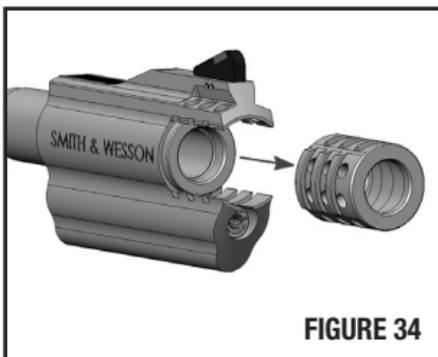

FIGURE 34
3. Remove the compensator from the barrel for cleaning or for a compensator change (FIGURE 34).